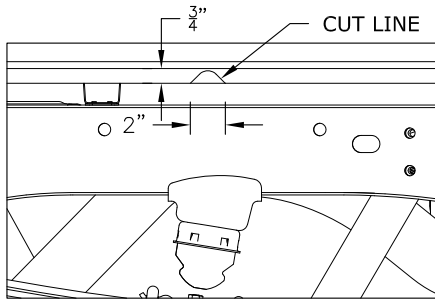

Figure A4: V-Shaped notch
1. **Modify bed flange.** Cut a notch in the bed flange just above the frame in the passenger side rear wheel well, as shown in Figure A4. This notch is required for installing the hitch crossmembers.